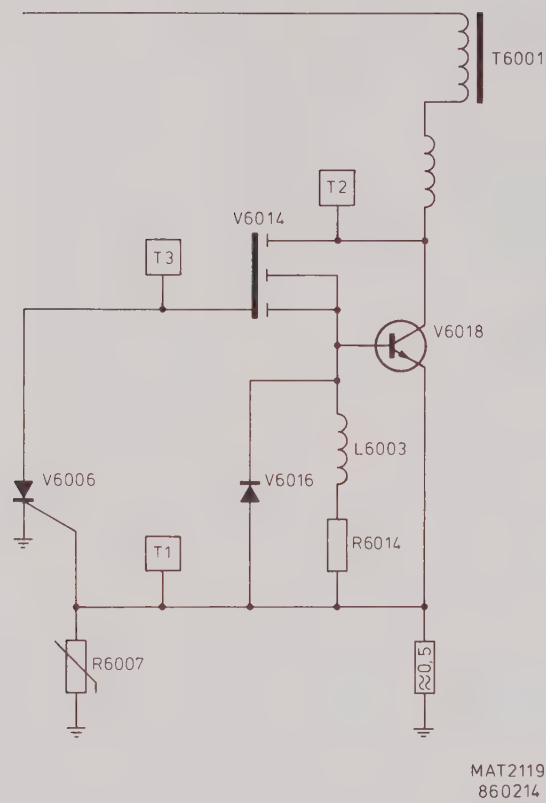
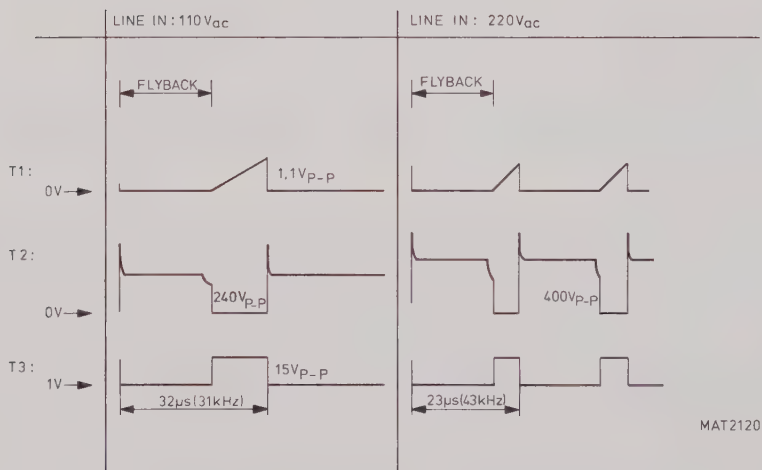

Fig. 9.1 Converter circuit
Fig. 9.2 Timing diagram converter circuit
9.2. CONVERTER CIRCUIT (see Figure 9.1 and Figure 9.2)